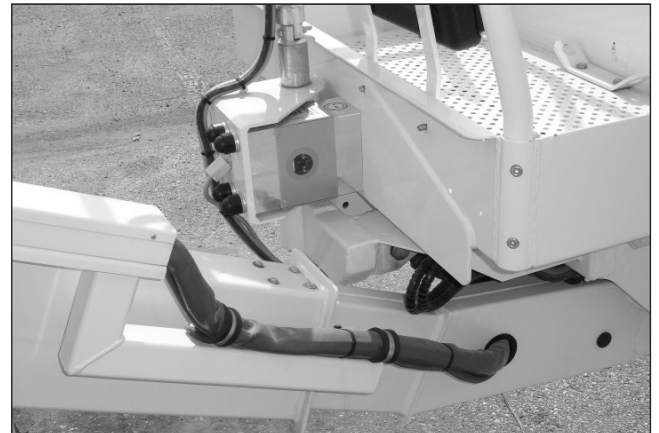

Figure 8.7 – Hoses, Tubes, and Fittings
1. Inspect all hydraulic hoses, tubes, and fittings for wear, leakage, or damage (refer to Figure 8.7).